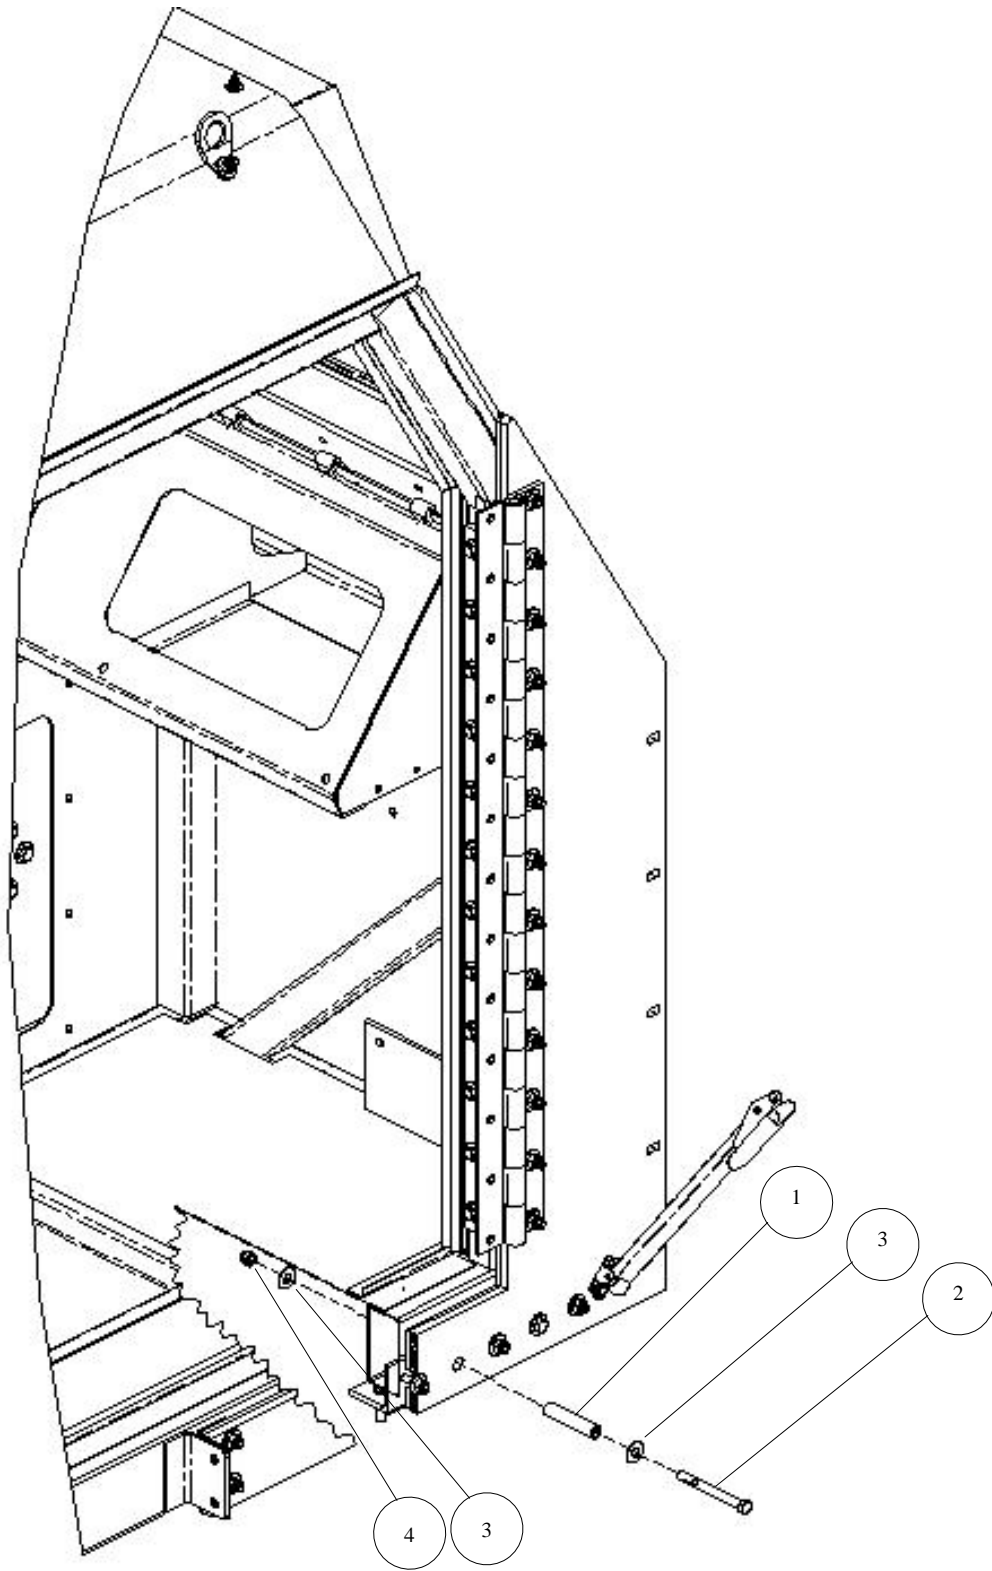

Figure 3-50. Cab Frame Rail Sleeve Bushing Installation.
3. Install cab frame rail sleeve bushings as follows (see Figure 3-50):